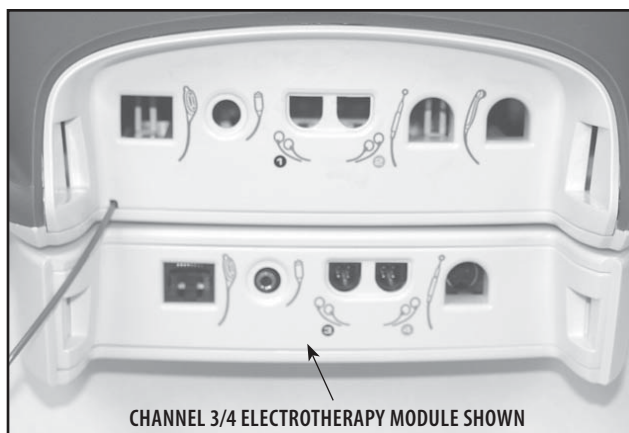

FIGURE 6.15
6. Route Power Cord through the Module and connect to the Therapy System. Install all cables, Lead Wires, etc. to the Therapy System and Module where applicable. Refer to **page 17** for symbol definitions. **See Figure 6.15.**